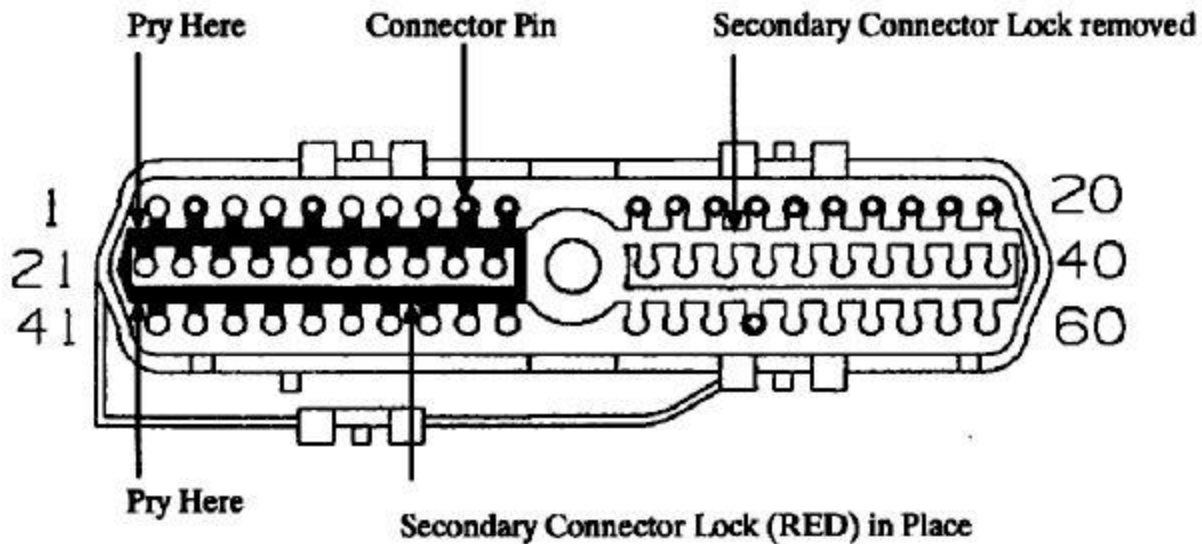

Figure 2.
6. Remove the RED secondary connector lock which retains the pin(s) to be replaced by prying with a small screwdriver at the locations shown (Figure 2). This will allow access to the connector lock and the pin.